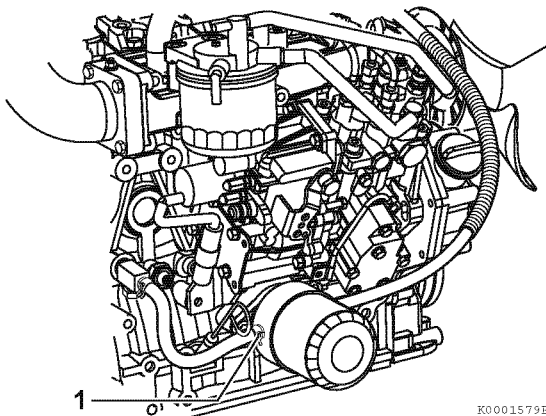

Figure 8-5
- On models equipped with an oil cooler, remove the coolant hose (1, **Figure 8-5**) at the oil cooler.